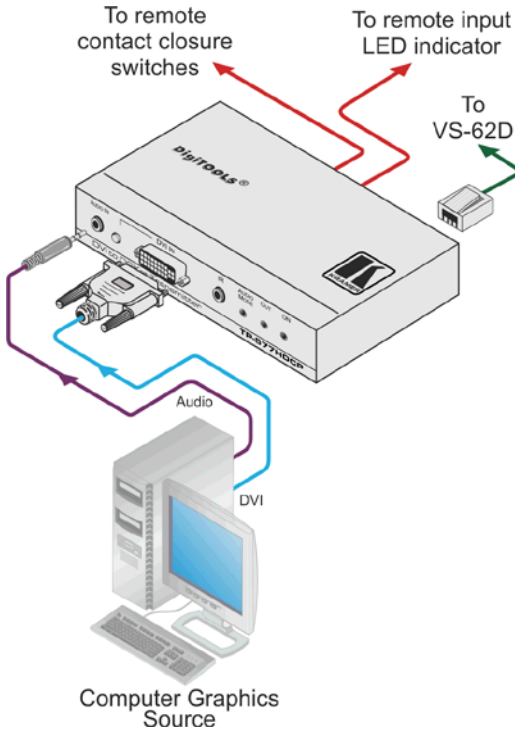

Figure 3: Connecting the TP-577HDCP DVI to DGKat Transmitter
To connect the **TP-577HDCP** as illustrated in the example in Figure 3:
7. Connect the power adapter to the **TP-577HDCP** (see Section 3.2) and to the mains electricity (not shown in Figure 3).